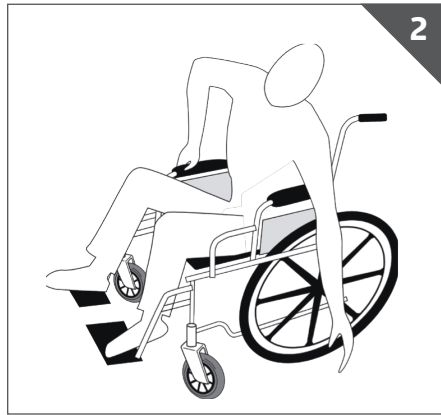

Figure 2
- When reaching sideways position the casters to provide the greatest stability side to side (Figure 2).